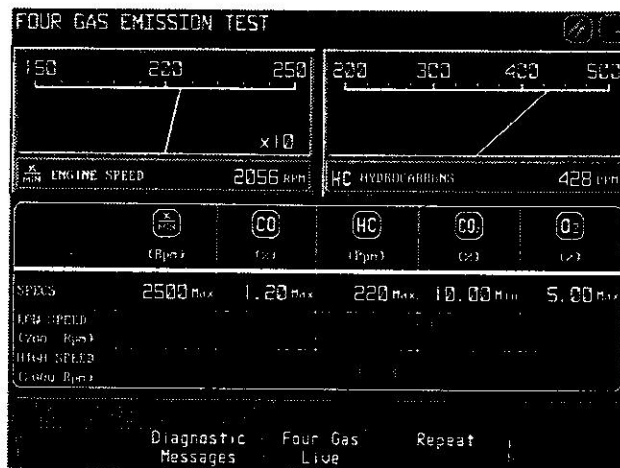

Figure 2-26
2. Follow the screen prompt and adjust the vehicle's engine to run at the manufacturer's idle RPM. When the analyzer detects an RPM within spec, the analyzer will read the RPM and dilution values, and will display the results on the screen, with a shadow function to show the acceptable range (see Figure 2-26).